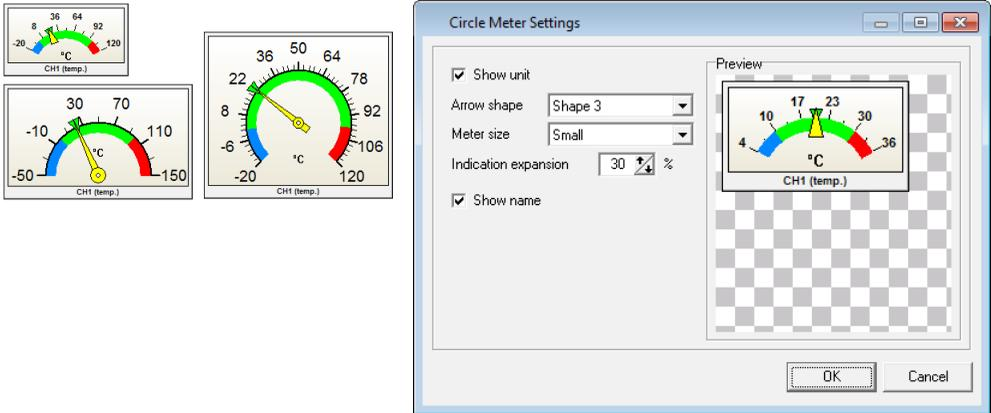

Figure 9.7. Examples of a circle meters with the appearance settings window
- Settings of Circle Meter type indicator (**Figure 9.7**) are as follows: